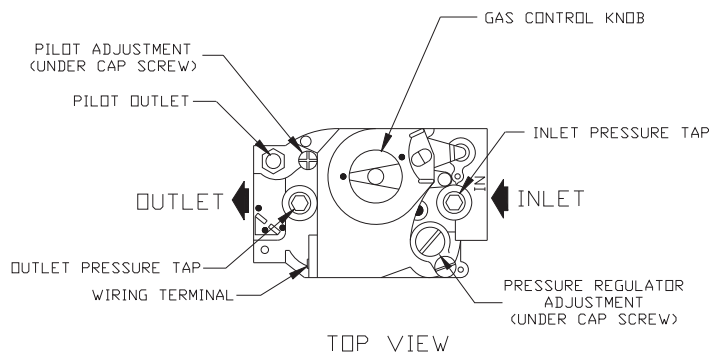

FIGURE 11.2: GAS VALVE DETAIL - HONEYWELL VR8204 AND VR8304
m) Connect a manometer to the inlet pressure tap on the gas valve (see Figure 11.2).
p) Connect a manometer to the manifold (outlet) pressure tap on the gas valve (Figure 11.2).
- r) If a manifold pressure adjustment is needed, make the adjustment by turning the regulator screw (see Figure 11.2) clockwise to raise the pressure and counter-clockwise to reduce the pressure. If a manifold pressure adjustment is made, recheck the inlet pressure after making the adjustment to be certain that it is still within acceptable limits. Replace the cover screw on the regulator.